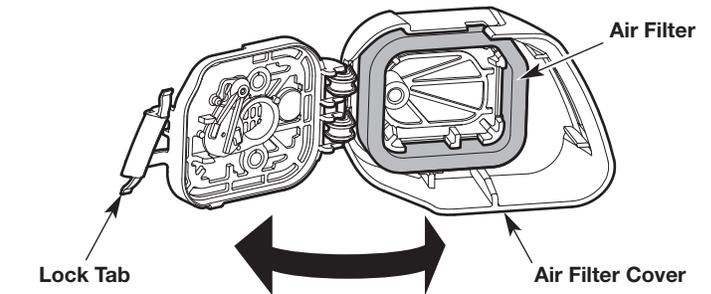

Fig. 20
1. Open the air filter cover: press in the lock tab and swing the air filter cover to the right (Fig. 20).
2. Remove the air filter from inside the air filter cover (Fig. 20).
6. Reinstall the air filter inside the air filter cover (Fig. 20).
7. Close the air filter cover: swing the air filter cover to the left and press it closed until the lock tab snaps into place (Fig. 20).